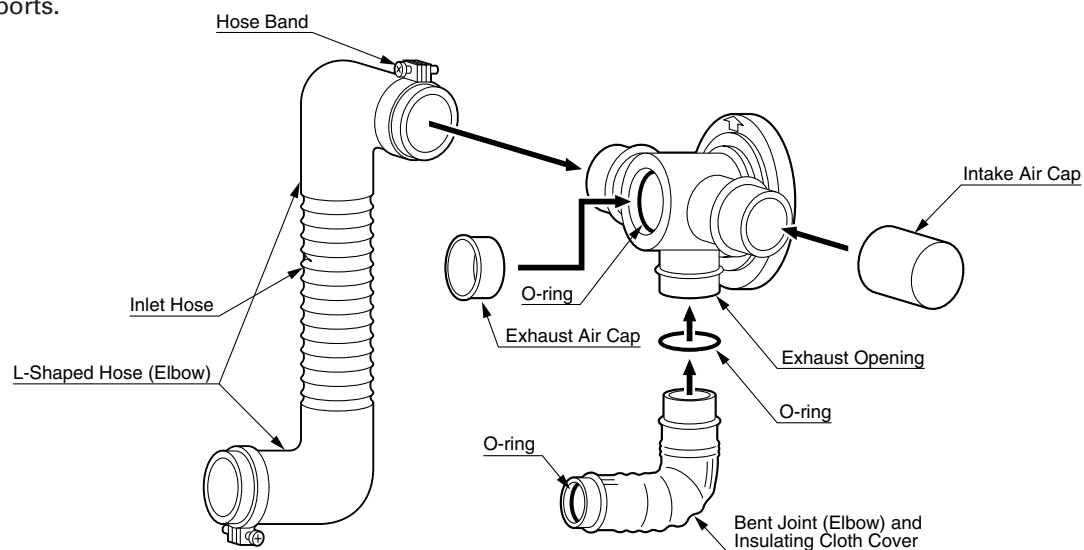
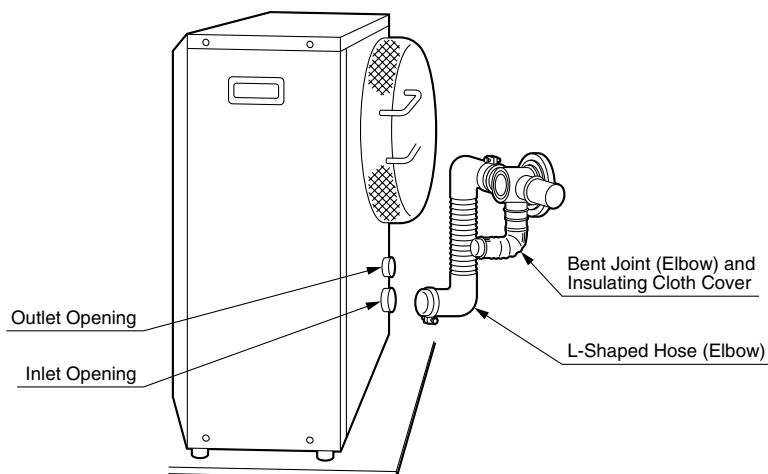
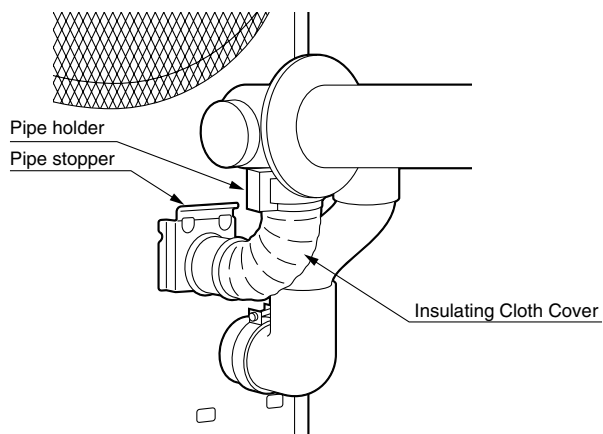

Fig. 10
Fig. 11
Fig. 12
- b) Insert the "bent joint" (Stainless Steel "Elbow" See Fig. 10), to the exhaust opening of the Balanced Flue Pipe, and secure with stainless steel "pipe holder". (See Fig. 12 and P18)
- d) If necessary, shorten the rubber Air Inlet hose to suit the distance between the rubber "Elbows", the Balanced Flue Pipe and the heater. Fit the rubber "Elbows" to the air inlet hose, the Balanced Flue Pipe and the heater "inlet opening" (See Fig. 11). Secure rubber elbows to heater and Balanced Flue Pipe with Hose Clamps. Use the rubber cap to seal the unused air intake "port" on the Balanced Flue Pipe.
- e) Install the stainless steel "Exhaust Air Cap", to seal the unused exhaust opening on the Balanced Flue Pipe (See Fig. 10). Use a light hammer to tap the cap into the Balanced Flue Pipe (with "O" ring), so that sealing is guaranteed (Leaking exhaust gasses are a hazard). Only use the Stainless Steel caps to blank off the unused Exhaust ports, and the Silicone Rubber caps to blank off the unused Air Inlet ports.
9. Move the heater into position (with drip tray under). Connect the bent joint (Stainless Steel Elbow), to the exhaust "Outlet Opening" of the heater (the exhaust outlet is the higher of the two 42mm diameter pipes which exit at the back of the heater (See Fig. 11), and secure with the "U" shaped "pipe stopper". (See Fig. 12 and Page 18). Spread the Insulating Cloth Cover over the full length of the exhaust "Bent Joint" (Elbow), so that it entirely covers and insulates the Elbow and the pipe stopper at the Balanced Flue Pipe end of the "Bent Joint".
10. If any of the Extension Pipe Kits (type L, M, or S) are used, use the pipe holders supplied with the Extension Pipe Kits to make permanent the connection between the bent joint (stainless steel Elbow) and the extension pipe. Secure the bent joint (or the extension pipe) to the exhaust outlet opening by sliding the pipe stopper in the exhaust opening bracket, located at the back of the heater cabinet (See Fig. 12).